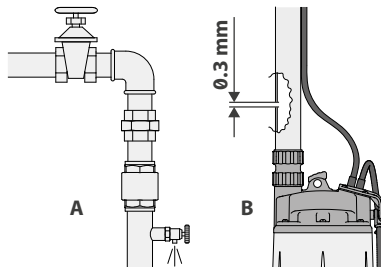

Fig. 6.6 - Venting arrangements.
- apply a small manual vent tap before the check valve (Fig.6.6-A);
- drill a 3mm hole on the delivery pipe just after the pump port (Fig.6.6-B). Position it close to the discharge port so that, when the pump is running, the small water jet escaping from it remains inside the sump.